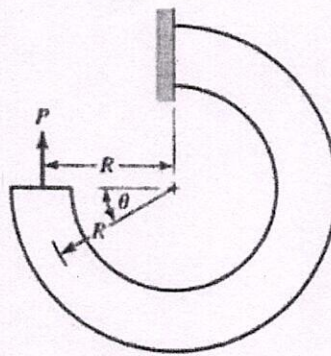

Figure 7
**Q.8** The curved beam in Figure 7 has a 30 mm cross-section and radius of curvature  $R = 65 \text{ mm}$ . The beam is made of steel for which  $E = 200 \text{ GPa}$  and  $\nu = 0.29$ .